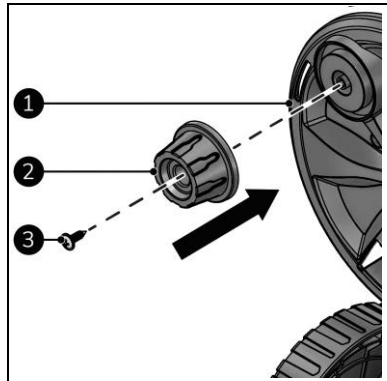

Figure 9
1. Attach the handle (Figure 9, pos. 2) to the high-pressure hose reel (Figure 9, pos. 1) with the ST4.8x16 screw (Figure 9, pos. 3).